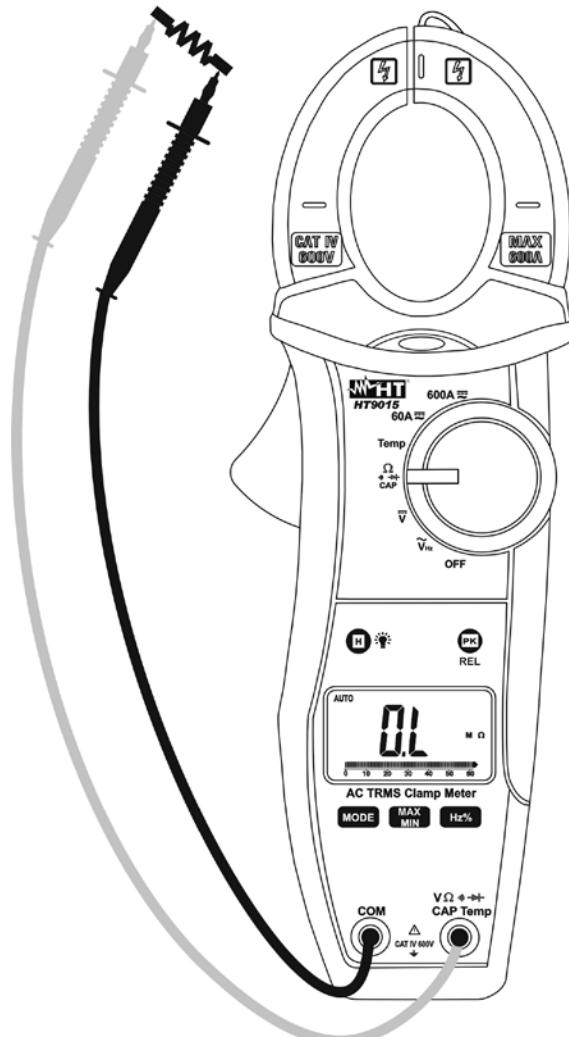

Fig. 5: Taking Resistance measurement
2. Insert the red test lead plug into $V\Omega \rightarrow \text{CAPHz\%Temp}$ jack and the black test lead plug into **COM** jack (Fig. 5)